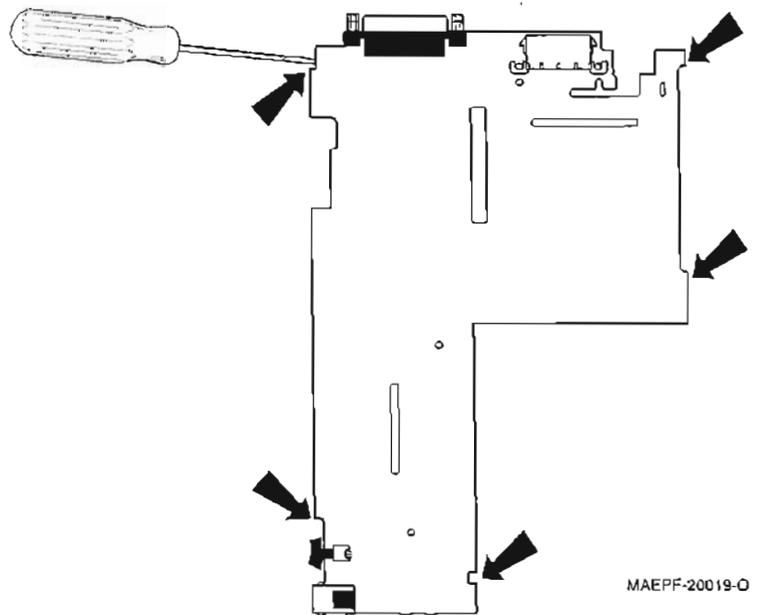

Figure 5. Top View of PCB
- (k) Referring to Figure 5, and using the small screwdriver, unsnap the five snap catches holding the main PCB. The board should be pulled directly upwards to allow the microphone connector to slide from its mating grooves. The main PCB is still attached to the bottom housing by the ribbon cable connected to the volume pot board. The main board can be flipped forward to access the underside without removing the volume pot board.